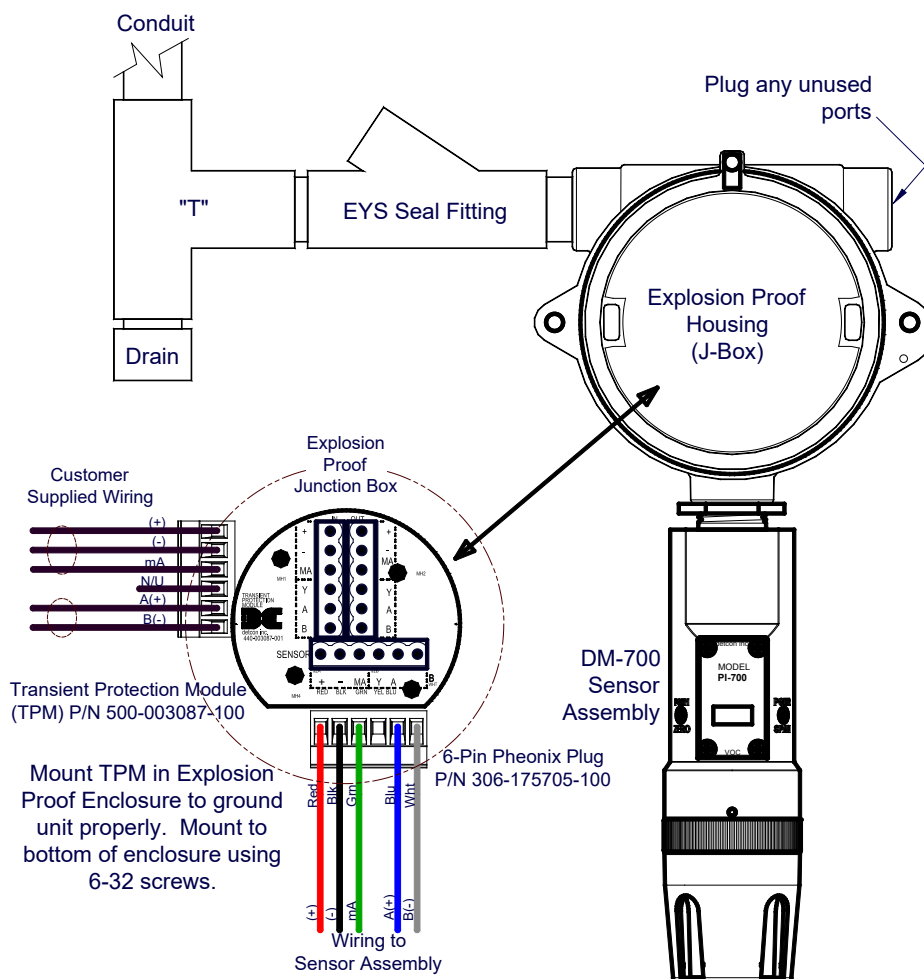
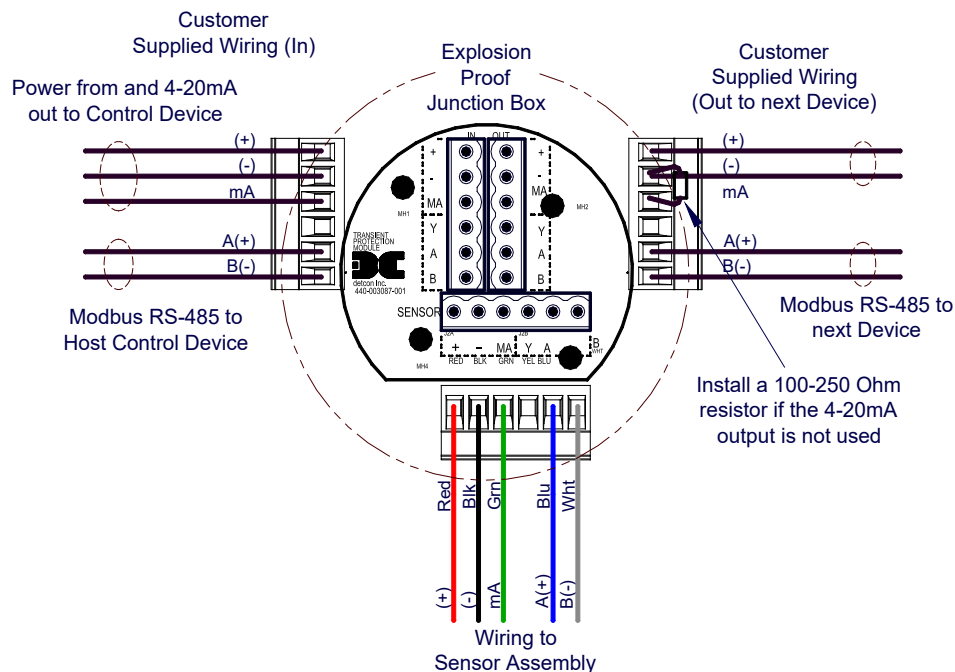

Figure 11 Typical Installation
Figure 12 Sensor Wire Connections
NOTE: All installations of the gas sensor should point straight down (refer to Figure 11). Improper sensor orientation may result in false readings and permanent sensor damage.
Proper electrical installation of the gas sensor is critical for conformance to Electrical Codes and to avoid damage due to water leakage. Refer to Figure 11 and Figure 12 for proper electrical installation.
NOTE: If a conduit run exits the secondary port, repeat the installation technique shown in Figure 11.
In Figure 11, the drain allows water condensation inside the conduit run to safely drain away from the sensor assembly. The electrical seal fitting is required to meet the National Electrical Code per NEC Article 500-3d (or Canadian Electrical Code Handbook Part 1 Section 18-154). Requirements for locations of electrical seals are covered under NEC Article 501-5. Electrical seals also act as a secondary seal to prevent water from entering the wiring terminal enclosure. However, they are not designed to provide an absolute water-tight seal, especially when used in the vertical orientation.
NOTE: For products utilizing the aluminum junction box option, the conduit seal shall be placed at the entry to the junction box (see Figure 11 as an example). For products utilizing the stainless steel junction box option, the conduit seal shall be placed within 18" of the enclosure. Crouse Hinds type EYS2, EYD2 or equivalent are suitable for this purpose.
- Observing correct polarity, terminate the 3-conductor 4-20mA field wiring (+, -, mA) to the sensor assembly wiring in accordance with the detail shown in Figure 12. If the 4-20mA output is not used, install a 100-250Ω resistor between the mA and (-) terminals on the Transient Protection Module.
- a) If applicable, terminate the RS-485 serial wiring as shown in Figure 12. Use the second plug (Out) as termination point on the customer side to facilitate a continuous RS-485 serial loop